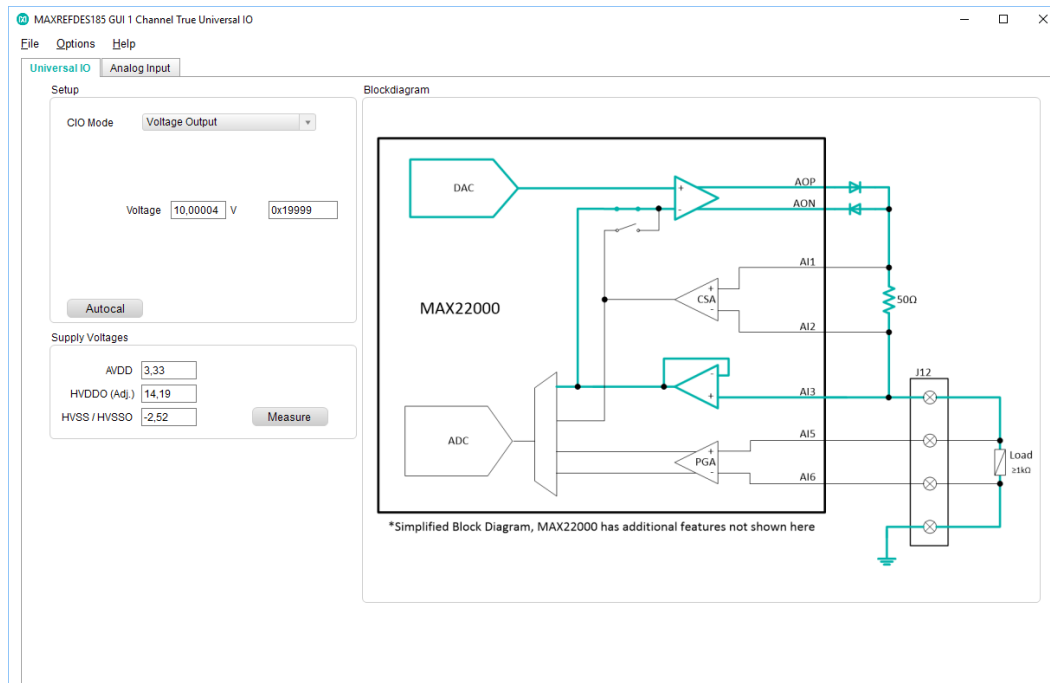

Figure 11. CIO Mode voltage output.
- 22. Voltage Output:** The GUI will show how both the DAC is driving the voltage and the feedback is driving the voltage at the pin on J12 (**Figure 11**). Enter any voltage between 0V and 10V.